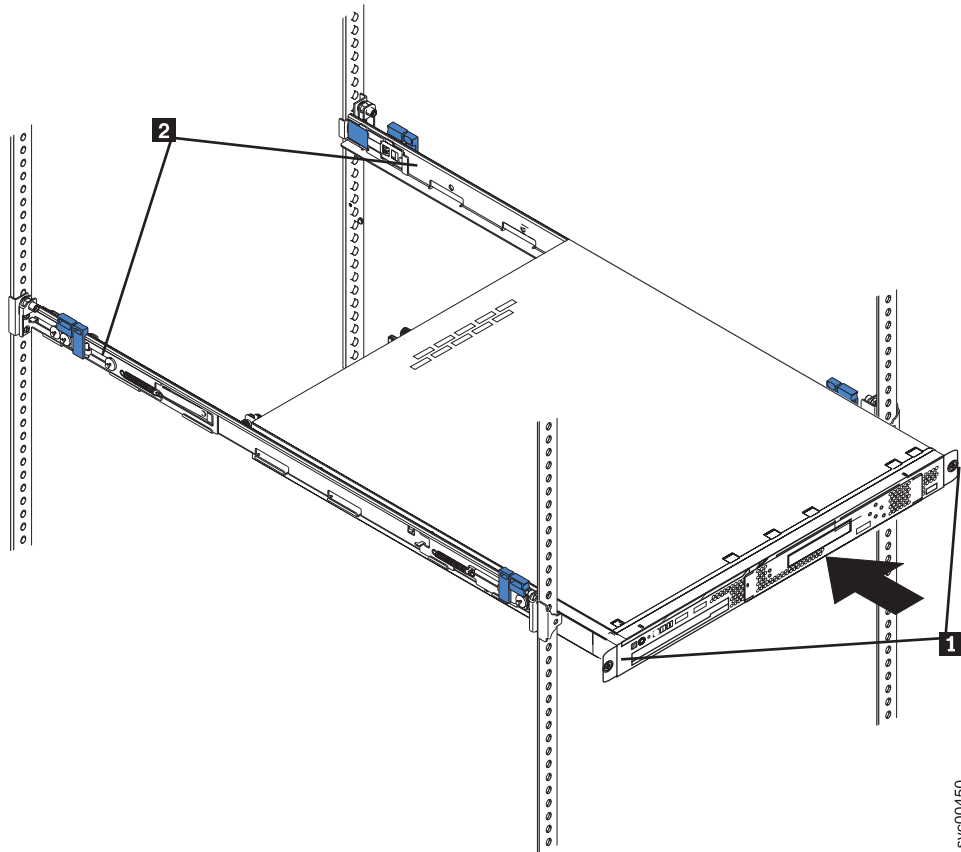

Figure 38. The captive thumbscrews that secure the node and the shipping brackets
3. Loosen the captive thumbscrews (1 in Figure 38) that secure the node to the front mounting flanges.